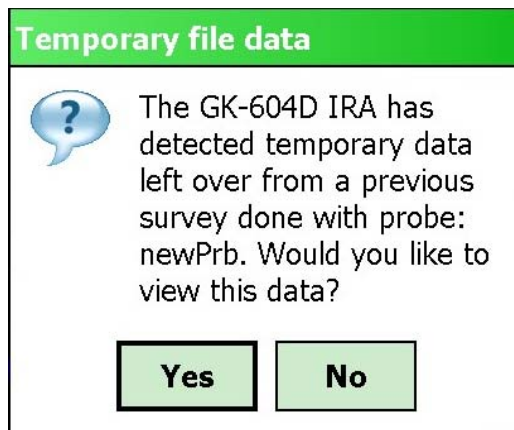

Figure 29 - Temporary File Data Prompt
- 1) Figure 29 shows the message displayed if the GK-604D detects that a previous survey wasn’t saved. Tapping “Yes” displays the temporary data (see Figure 30). Tapping “No” displays the “Load previous data” prompt (see Figure 31)